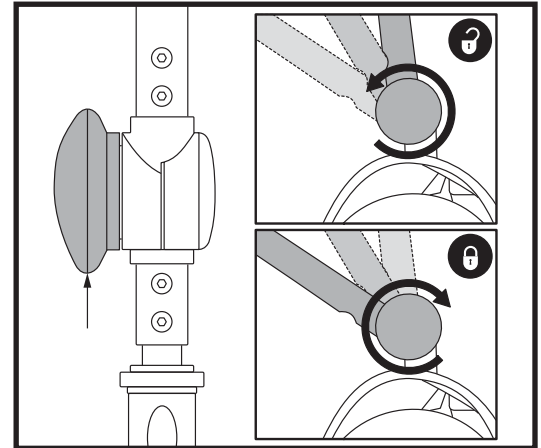

Figure 22. Tiller Adjustment Knob
## TILLER ANGLE ADJUSTMENT (See figure 22)
1. With the seat and battery pack removed (see Disassembly Procedures on previous page), lower the tiller and tighten the tiller adjustment knob. **See figure 22.**